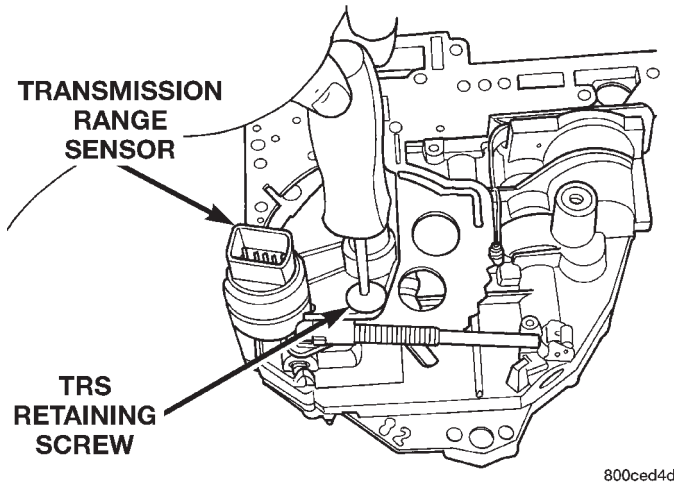

Fig. 35 Remove Retaining Screw
- (12) Remove TRS retaining screw (Fig. 35).